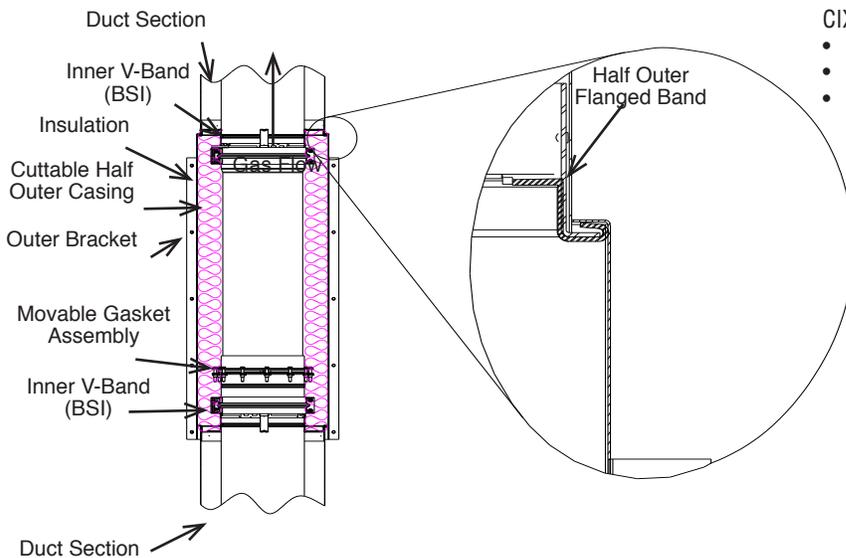

Figure 21 - Installation of Adjustable Length Step 6
6. Install the outer pipe casing insulation (and insulation strip if Model CIX3Z) so the side with the bracket goes on the upstream section. See **Figure 21**.